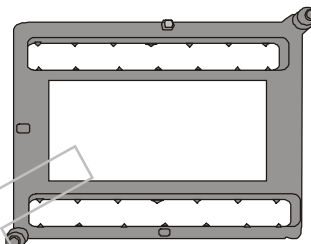

Fig. 1.2
2. Making sure the SVGA chip holder is for SVGA DMD. (as shown on above Fig. 1.2)